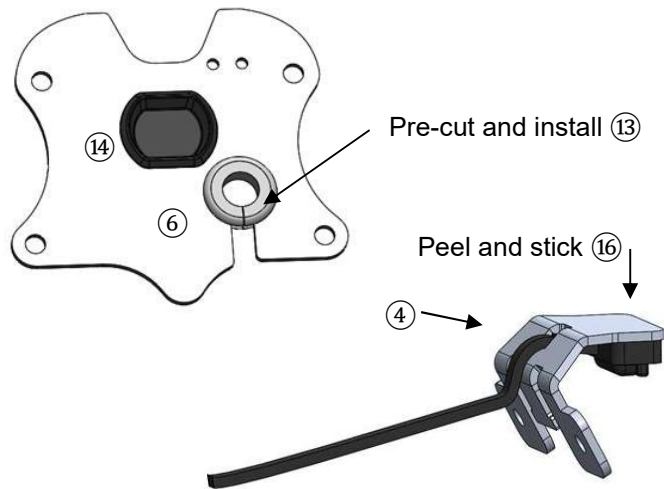

Fig. 2
4. On a work bench, insert both ⑦ M6x25 Flat Hex Head Screw into the ① and ② Left and Right Main Brackets. These will act as alignment pins as you stack the rest of the brackets and mounts. (Fig. 2)
5. Place the ① and ② left and Right Main Bracket side by side. Then place the ⑤ Reflector Bracket over the screws. (Fig. 2)
6. Next, place the ④ LED Mount over the screws and on top of the ⑤ Reflector Bracket. Route the ⑯ License Light Assembly wire in between and inside the ① and ② Left and Right Main Brackets. (Fig. 2)
7. Place the ③ Turn Signal Mount over the screws and the rest of the brackets. Place one ⑨ M6 Flat Washer on the end of each screw and thread on one ⑩ M6 Nylon Locking Nut on both ⑦ M6x25 Flat Hex Head Screws. (Fig. 2)